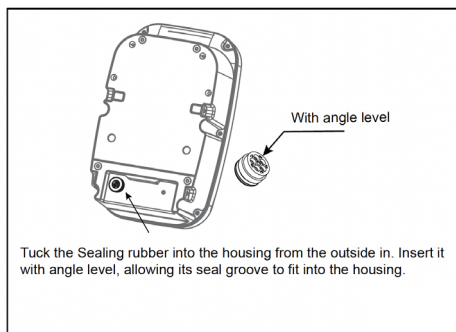

Fig. 17
- b1. Insert the sealing rubber into the housing from outside to inside (see fig. 17). Pass the conductors through the sealing rubber, using one hole per conductor. After inserting all of them, leave enough cable length to reach the terminal block.